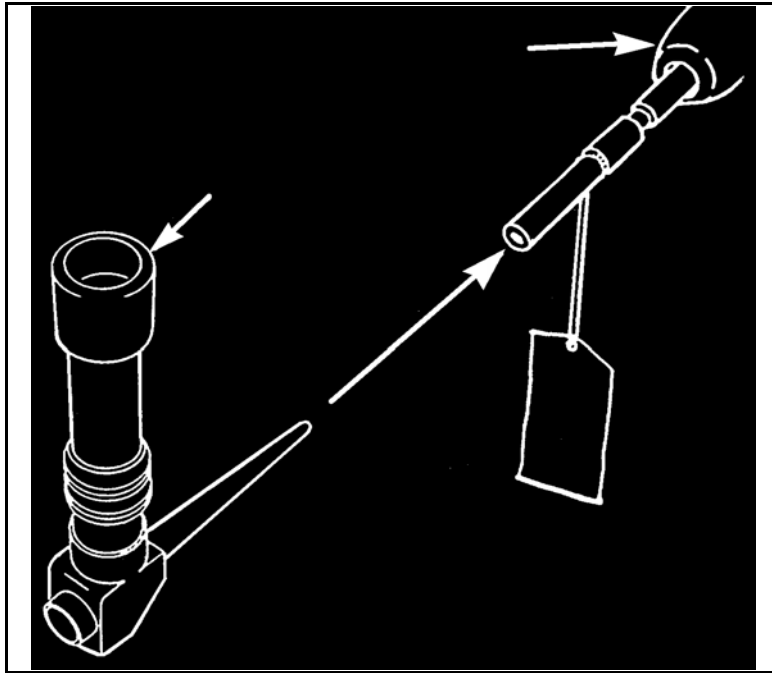

Figure 2. Boresight kit.
3. *Helper:* Install the boresight telescope (Figure 2).